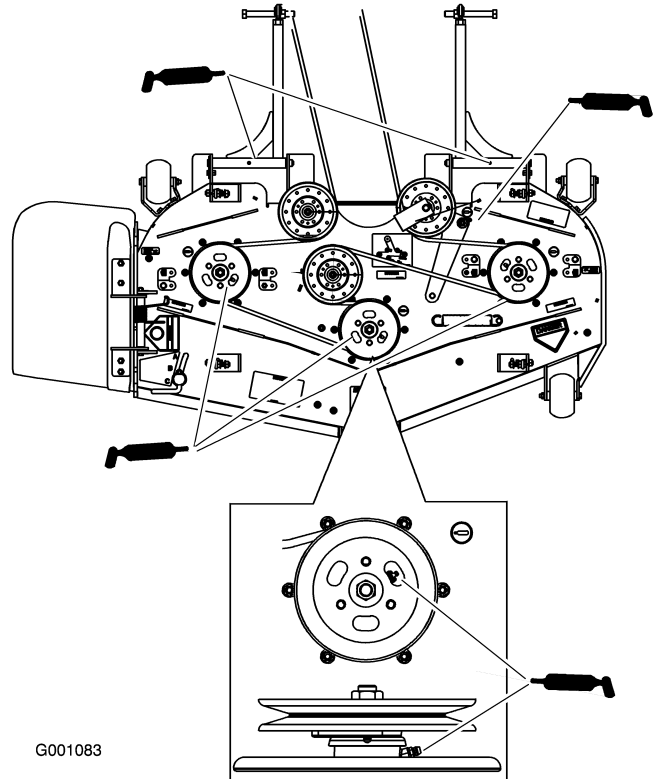

Figure 22
3. Check the tensioning arm for grease (Figure 22).
4. Check the grease for the three spindle bearings (Figure 22). If needed, add grease until it comes out of the lower seals.